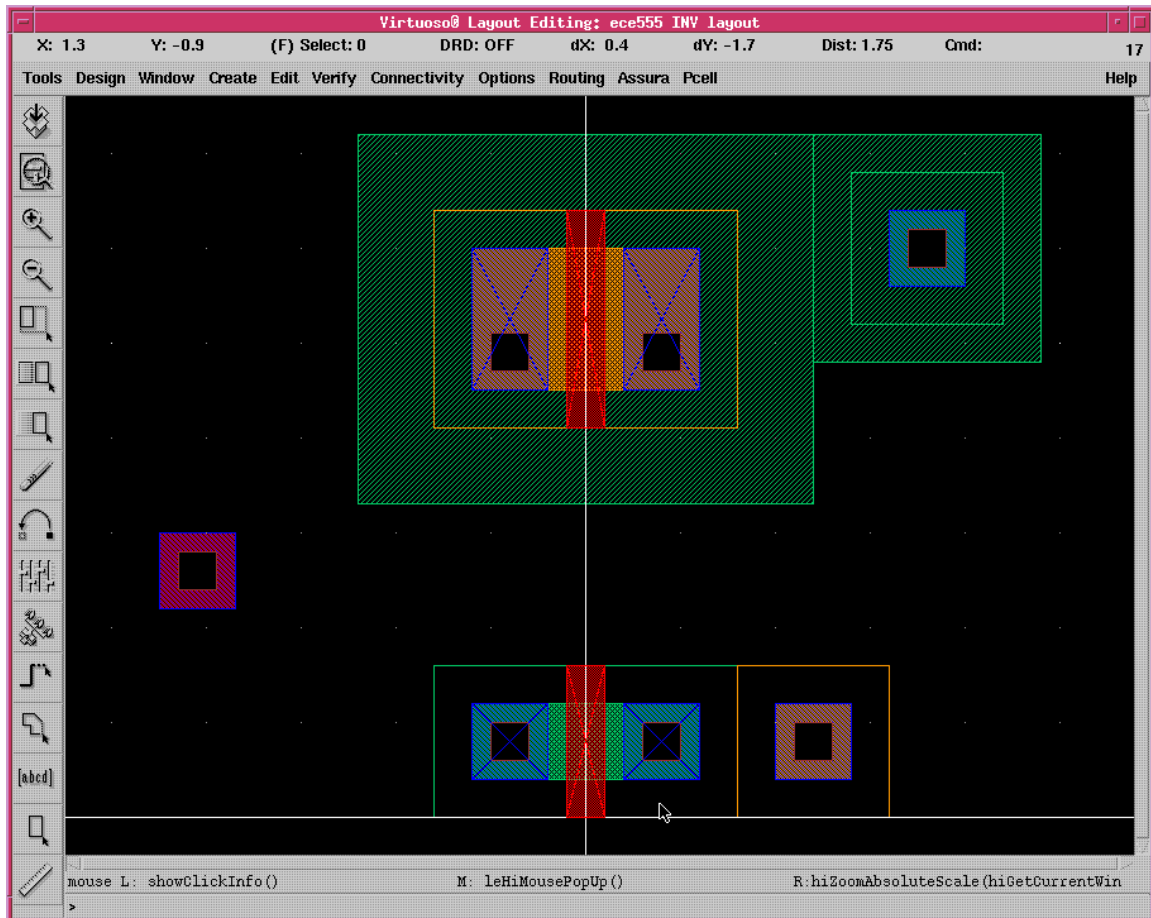

Fig. 7. Final placement of cells
- Repeat the steps for ntap, pmos, ptap and m1\_poly and move the cells around until it looks like Fig. 7.